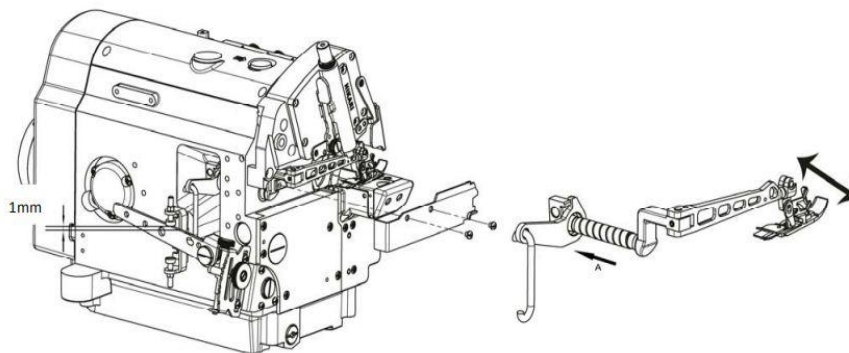
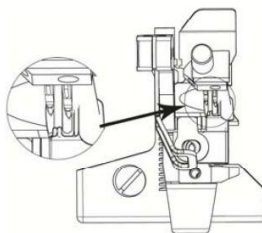

Fig22
Fig 23
3. Check to see if the slot(s) of the needle(s) on the presser foot is (are) aligned with that (those) on the needle plate. If not, loosen fixed presser foot bushings screw, and adjust presser arm by moving it left or right. After this adjustment, tighten screw. (Fig 22、 Fig 23)